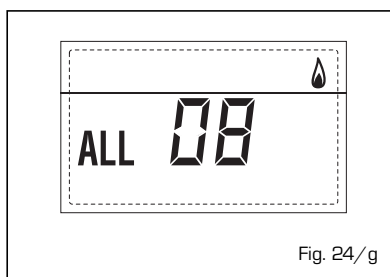

Fig. 24/g
**- WATER CIRCULATION ANOMALY ALARM 09** (fig. 24/h)